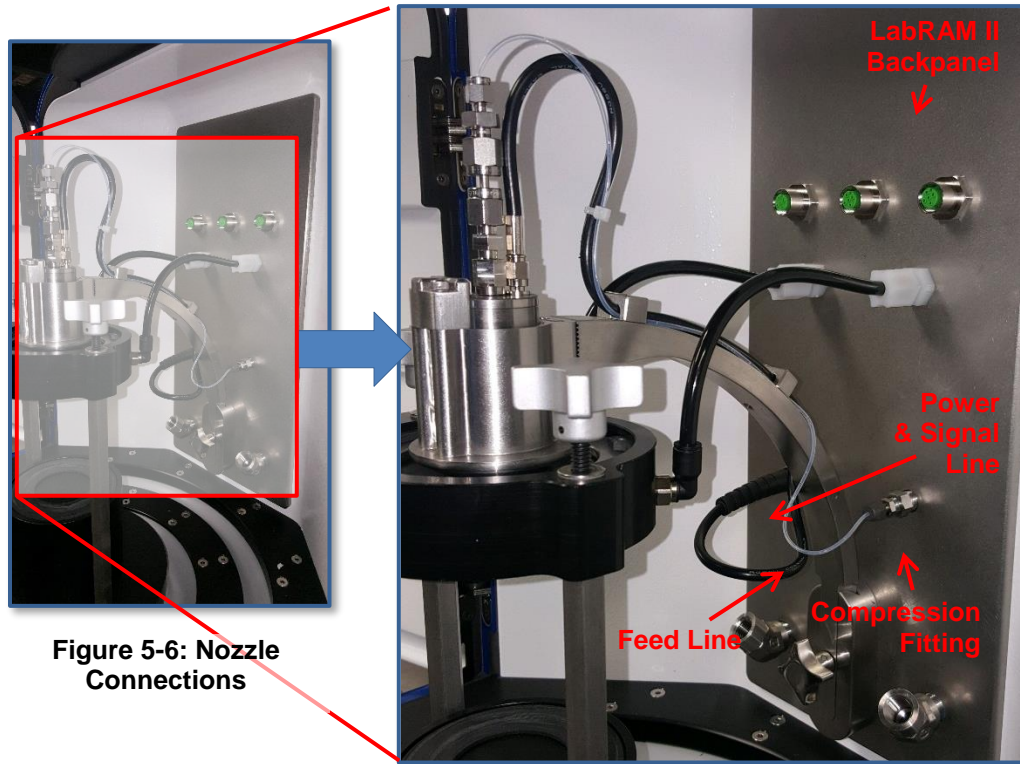

Figure 5-6: Nozzle Connections
- 5.2.5 Connect the feedline shown in Fig. 5-6 to the back panel by unscrewing the compression nut with fingers, inserting the feedline and re-tightening the compression nut. Carefully connect the power and signal cable connected to the appropriate back panel connection port, pushing firmly but carefully directly into socket.